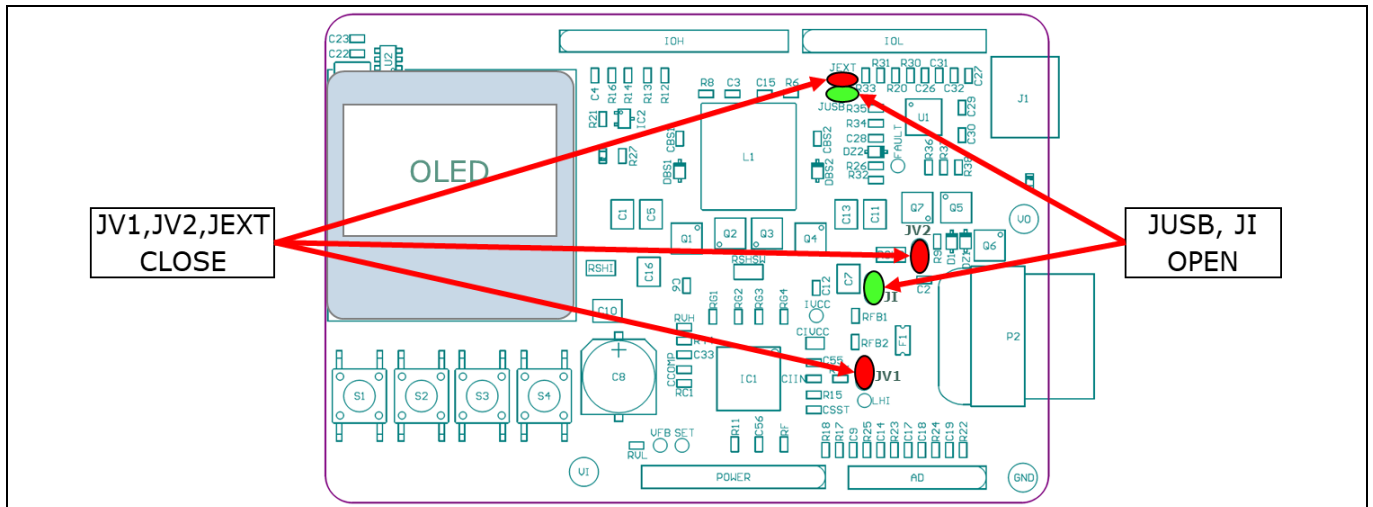

Figure 10 Jumper set for voltage regulator mode powered by standard power supply
1. Configure jumpers for voltage regulator and external standard power supply, see Figure 10